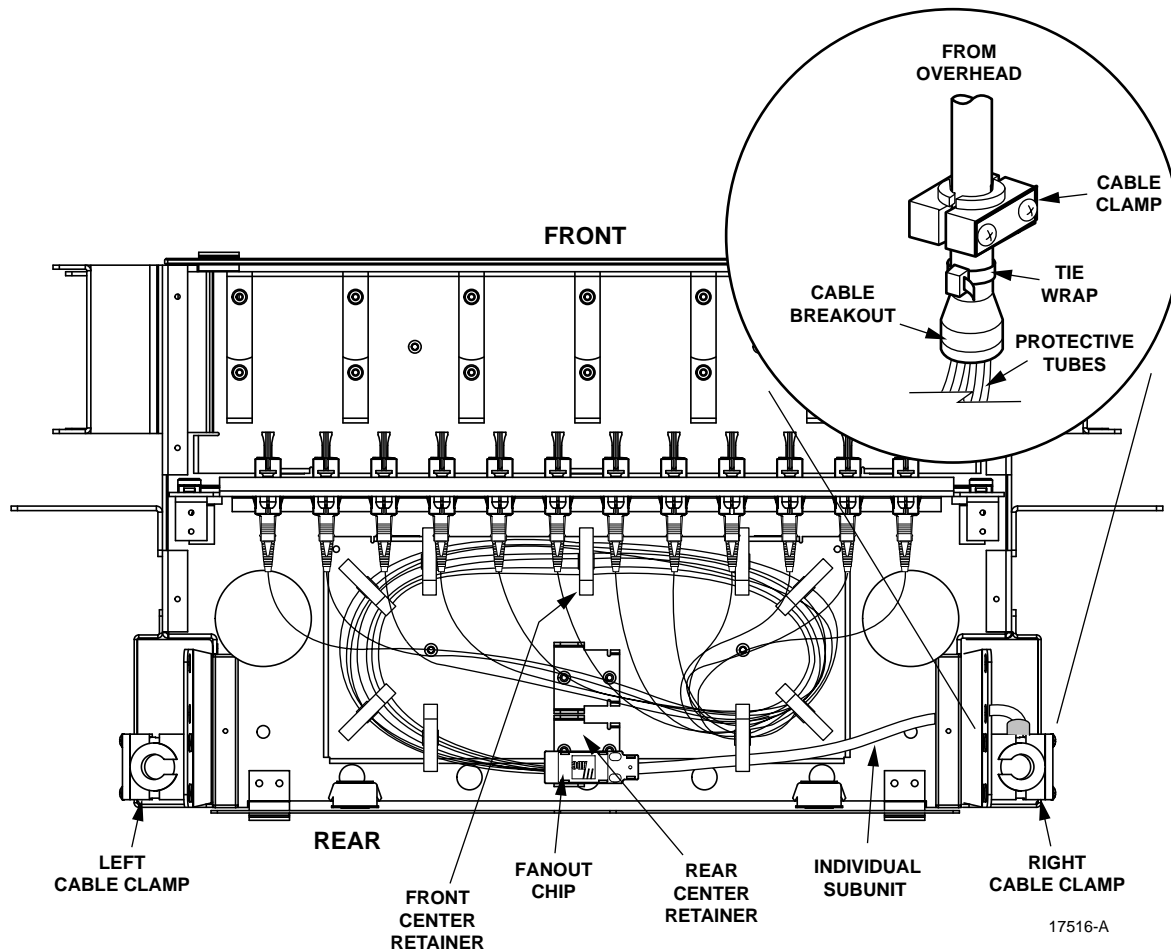

Figure 18. Ribbon Cable Routing – Top View
If a ribbon cable is being installed, route the cable fibers into the rear of the LSX connector module using the following procedure (see Figure 18).
3. Route the fibers from the fanout chips around the retainers, then fan them out to the adapter ports, as shown in Figure 18.